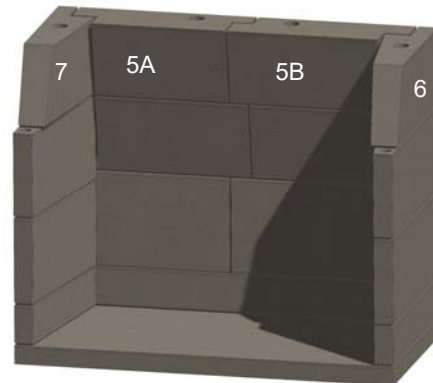

Figure 8. Upper Back Plates & Sidewalls
E. Install the slanted sidewalls (6 and 7), and the upper back plates (5A, 5B). Check the sides and the top with a level. See Figure 8.